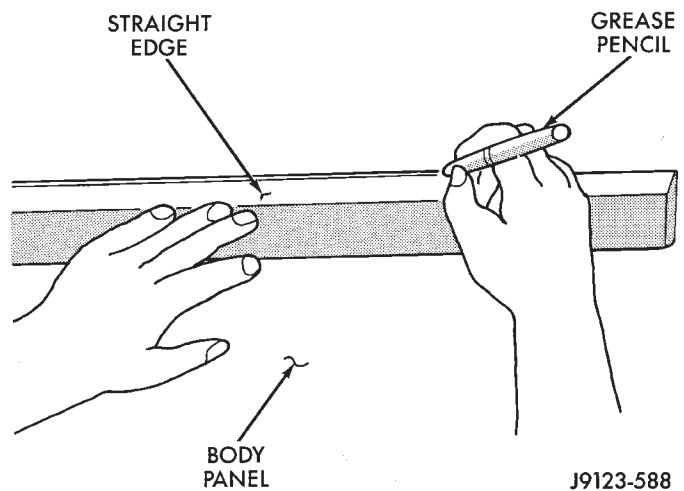

Fig. 65 Stripe/Decals Alignment Reference Mark
(1) Align a straight edge with the existing tape stripe/decals ends and use a wax pencil to mark a line on the panel (Fig. 65).